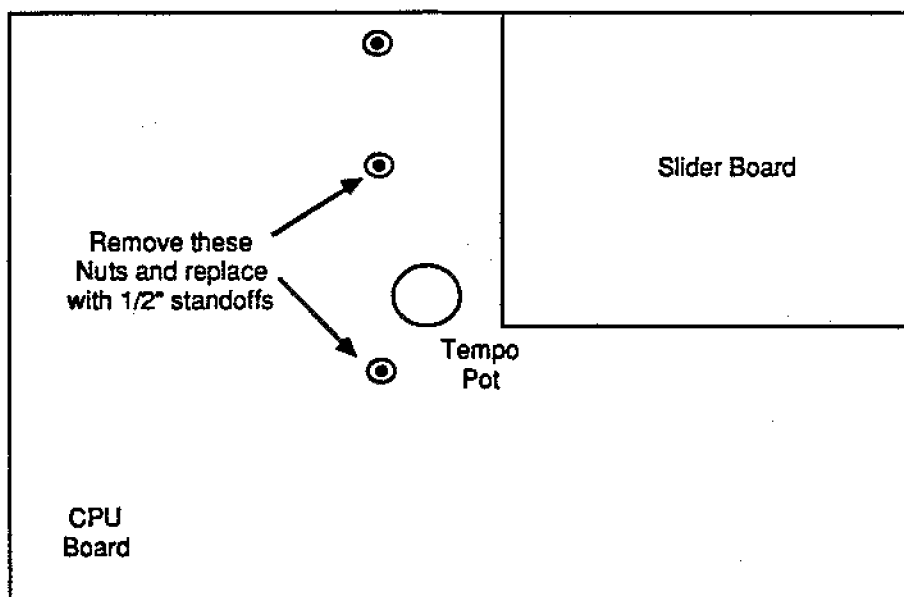

Figure 3
- F) Replace the CPU board into the Linn, replacing all nuts except the ones just above and below the rear of the TEMPO pot. See Figure 3. These should be replaced with the two 1/2" standoffs.